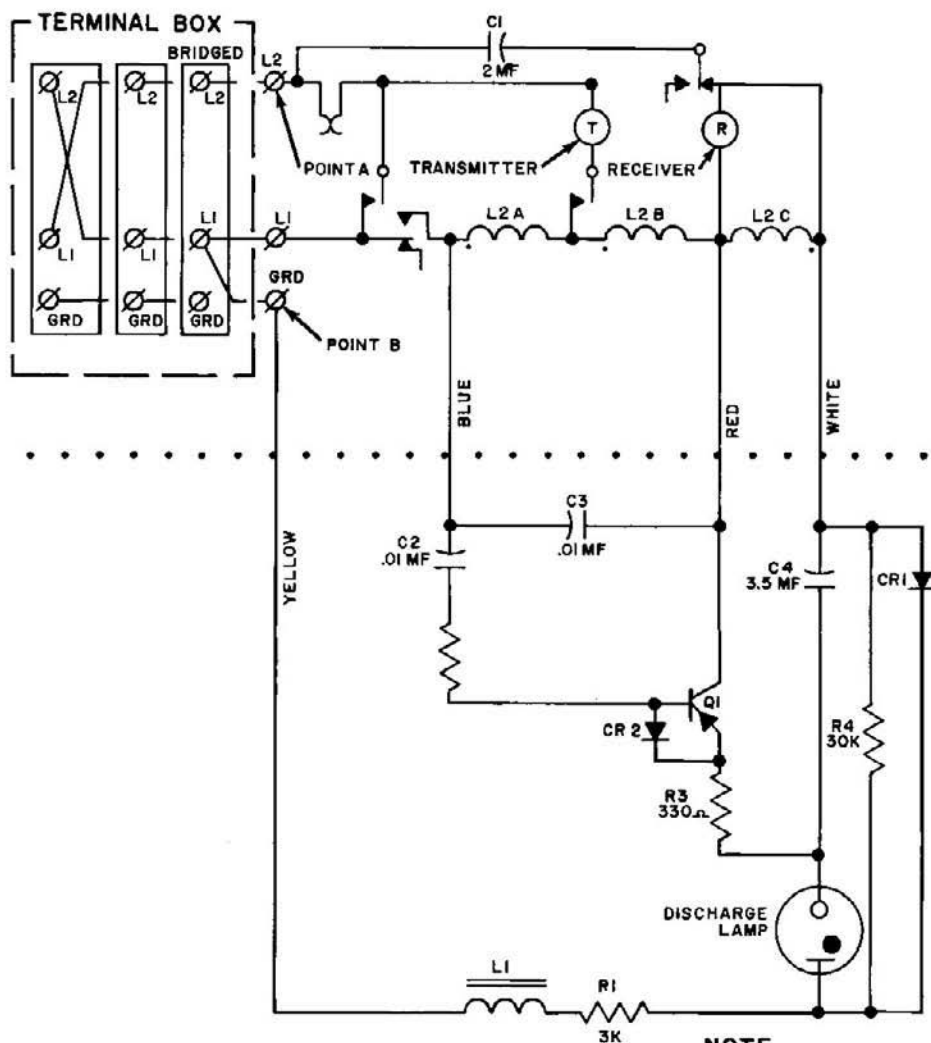
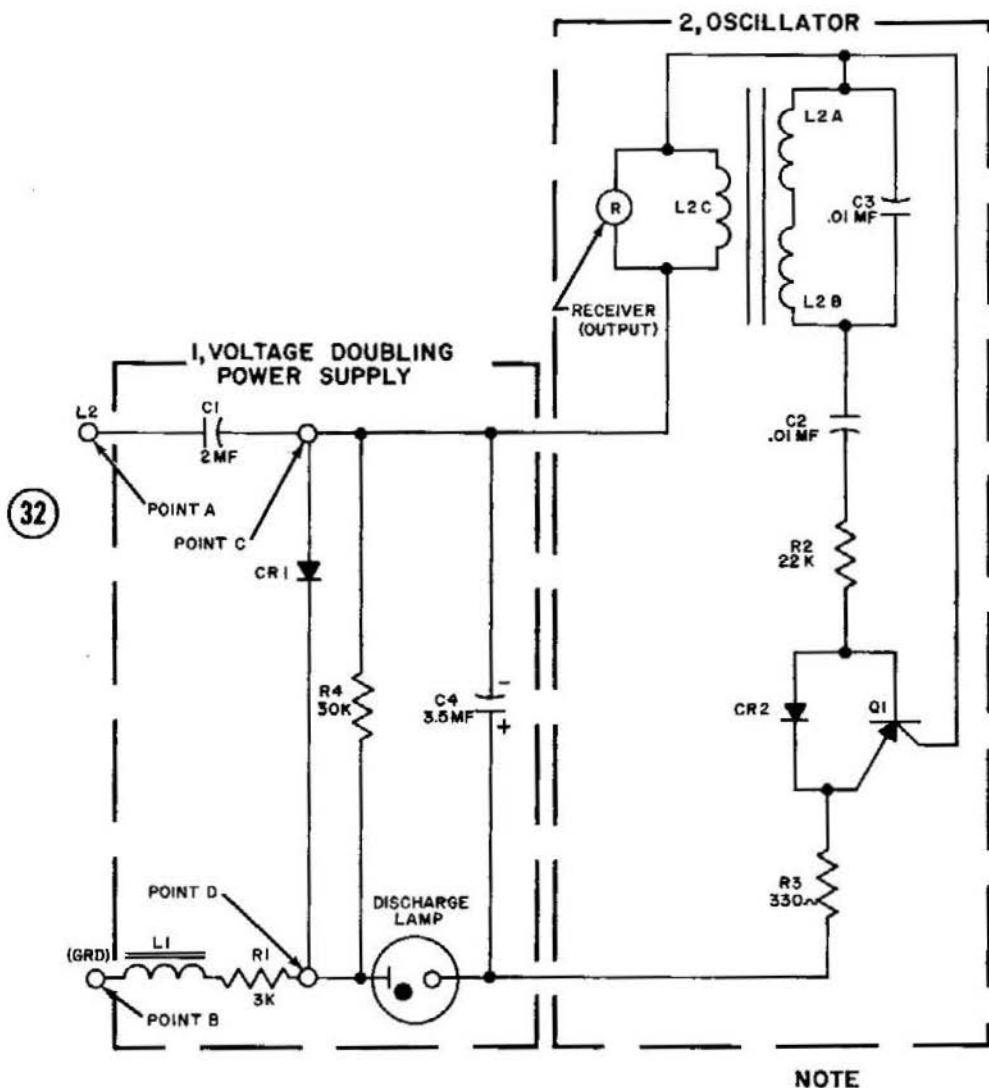

Figure 4-1. Schematic Diagram Showing the Electrical Relationship between the Ericofon and Ericotone Circuits
Figure 4-2. Schematic Representation of the Ericotone Circuit
4-5. HOW THE ERICOTONE IS ELECTRICALLY RELATED TO THE ERICOFON. Figure 4-1 illustrates the relation of the Ericotone Assembly when it is present in the Ericofon. The circuit components which are displayed above the "dotted" line are present in all Ericofons whether they are equipped with the Ericotone or not; those which appear below the dotted line belong exclusively to the Ericotone circuit.
plunger switch on the base is depressed, the dial is in its rest position, and the various contacts of the Ericofon's circuit are in the positions shown in figure 4-1. Ringing is achieved when a voltage (70-120 VAC, at 16-66 cycles per second) is applied between points "A" and "B".
4-9. BRIDGED RINGING. Where bridged ringing is employed, the ringing voltage is applied (and originates at the telephone central) between lines L1 and L2 (refer figure 4-1). L1 is connected to point "B", and L2 is connected to point "A".
4-10. DIVIDED RINGING. Where divided ringing is employed, the ringing voltage is impressed (same point of origin) between the line and ground--that is to say, the ground lead (GRD) is connected to point "B", and the line lead (which carries the ringing current) is connected to point "A" (refer, figure 4-1).
4-12. THE ERICOTONE CIRCUIT. Figure 4-2 displays the schematic representation of the Ericotone circuit. Components, appearing in figure 4-1 which do not affect the Ericotone's ringing circuit, have been removed to facilitate clarity and concentration.
a. A Voltage Doubling Power Supply. The power supply converts AC ringing voltages into DC voltages containing ringing-frequency modulation (see 1, figure 4-2).
b. An Oscillator. The oscillator develops and applies an amplitude and frequency modulated tone to the Ericofon's receiver assembly (see 2, figure 4-2).